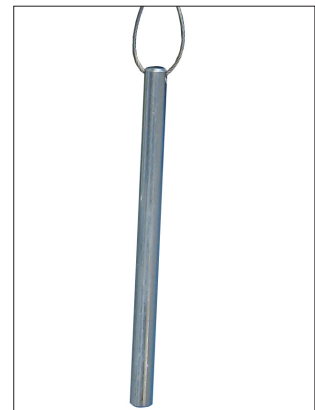

Fig. 77: Pin spanner
- Pin spanner for opening the high pressure filter (Fig. 77)